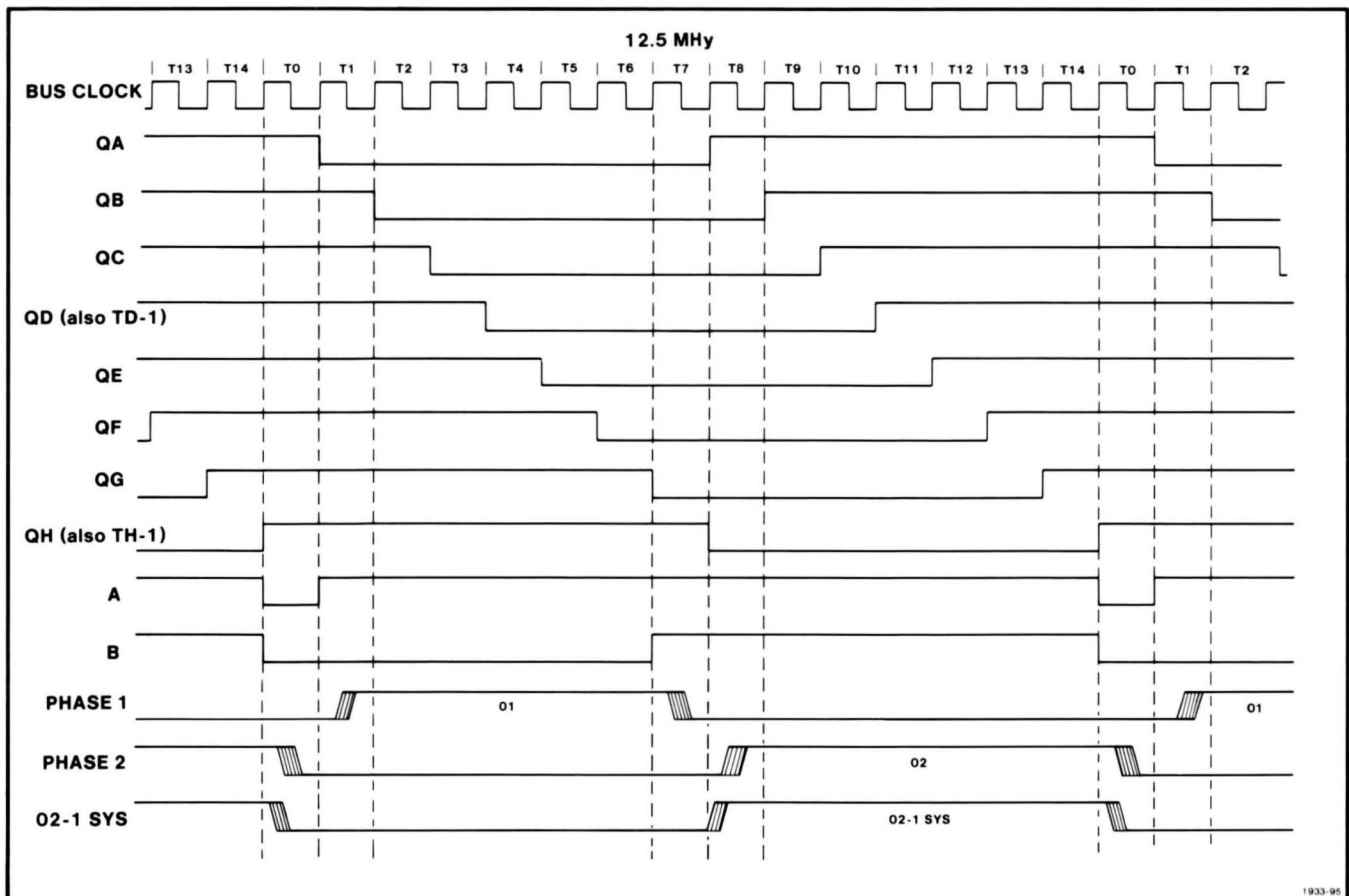

Figure 5-10. Clock Generator Timing Diagram.
The Clock Generator (shown in Schematic A1-3) generates the 12.5-MHz square-wave Bus Clock and the two-phase non-overlapping clock for the processor as well as several other system timing signals (from the 12.5-MHz master clock signal). A drawing of these waveforms is shown in Figure 5-10.
Assume that the Shift Register is currently at State T0 (Figure 5-10). This means that all of the Q outputs are high and the output of the 8-input NAND gate (A) will be low. This low resets the R-S Flip-Flop so that B is also low. Since A and B are low and become inputs (which are internally "ANDed") to the Shift Register, the next clock shifts a low into QA of the Shift Register. This causes A to go high, but since B is still held low by the R-S Flip-Flop, lows continue to be shifted into the Shift Register until QG goes low. This resets the R-S Flip-Flop, causing B to go high. Now, since A and B are both high, highs start shifting into the Shift Register. With each clock pulse, the outputs of the Shift Register become highs until QH. When QH goes high, A goes low, which returns the Shift Register to its initial condition (T0). The cycle starts over, with 15 clock pulses required for each cycle.